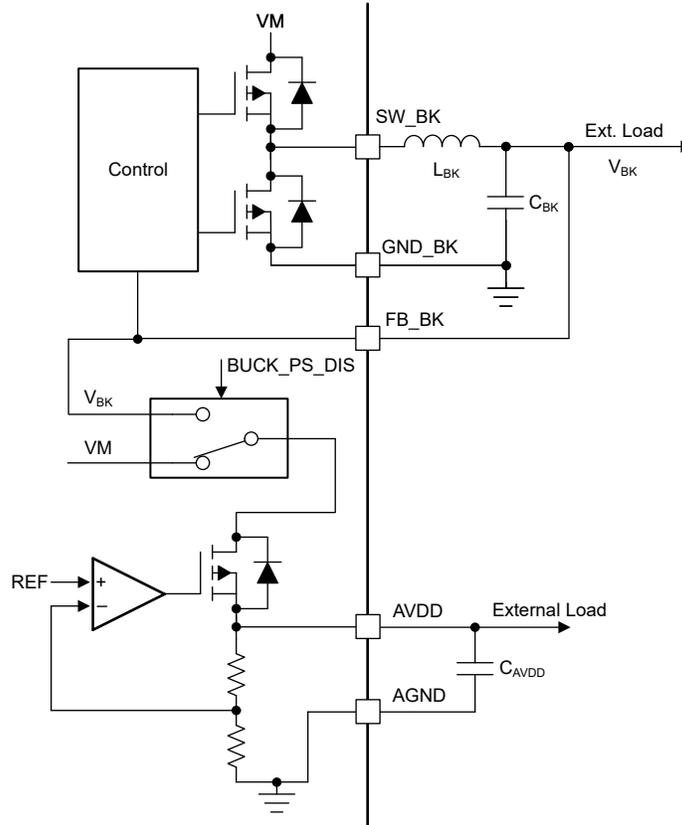

Figure 8-13. AVDD Power Sequencing on mixed mode Buck Regulator
The AVDD LDO has an option of using the power supply from mixed mode buck regulator to reduce power dissipation internally. The power sequencing mode allows on-the-fly changeover of LDO power supply from DC mains (VM) to buck output (VBK) as shown in Figure 8-13. This sequencing can be configured through the BUCK\_PS\_DIS bit. Power sequencing is supported only when buck output voltage is set to 5.0 V or 5.7 V.